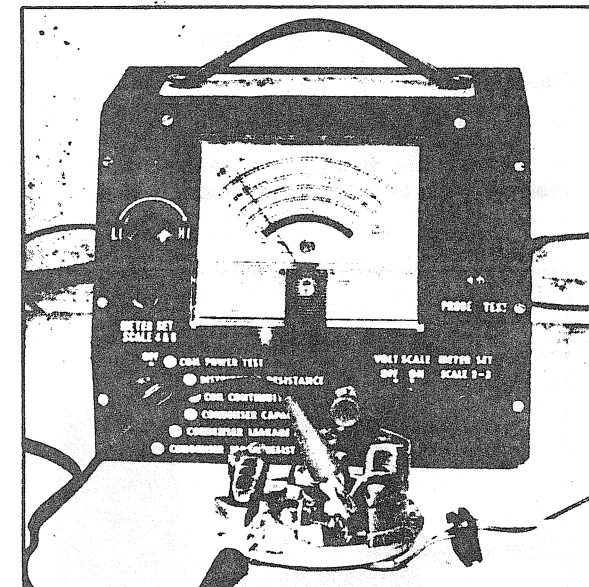

FIGURE 9
- The meter pointer must return in the OK block. (Fig. 9).